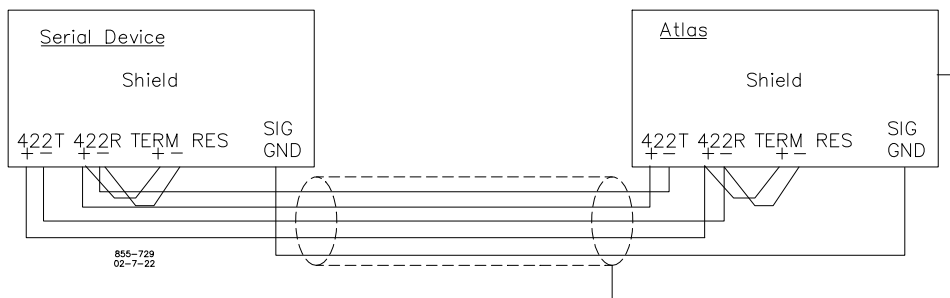

Figure 5-18. Wiring Example–RS-422 Interface to the SmartCore Board
- Refer to Figure 5-18 for RS-422 wiring. The transmit data pairs (422T+ and 422T-), receive data pairs (422R+ and 422R-), and signal ground (SIG GND) must be properly connected as shown. In addition, the shield (SHLD) should be connected in at least one location. The last unit in the network chain, and only the last unit, should have its receiver terminated with a resistor. The AtlasPC has resistors built in (TERM RES) for this purpose. This applies to both ends of the network.